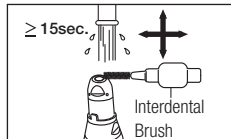

Fig. 11
- 2) Clean around the bur insertion hole for 15 seconds or more, using an interdental brush (wire thickness 0.7mm) that conforms to size 4 in ISO 16409. (Fig. 11)